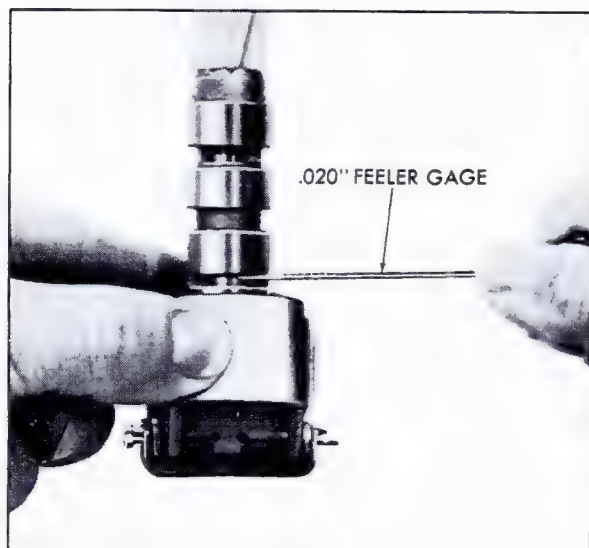

Fig. 7-62 Checking Valve Opening - Weights Inward
11. Check valve opening at exhaust (.020" minimum) with a feeler gage, holding governor as shown with governor weights completely inward, Fig. 7-62.